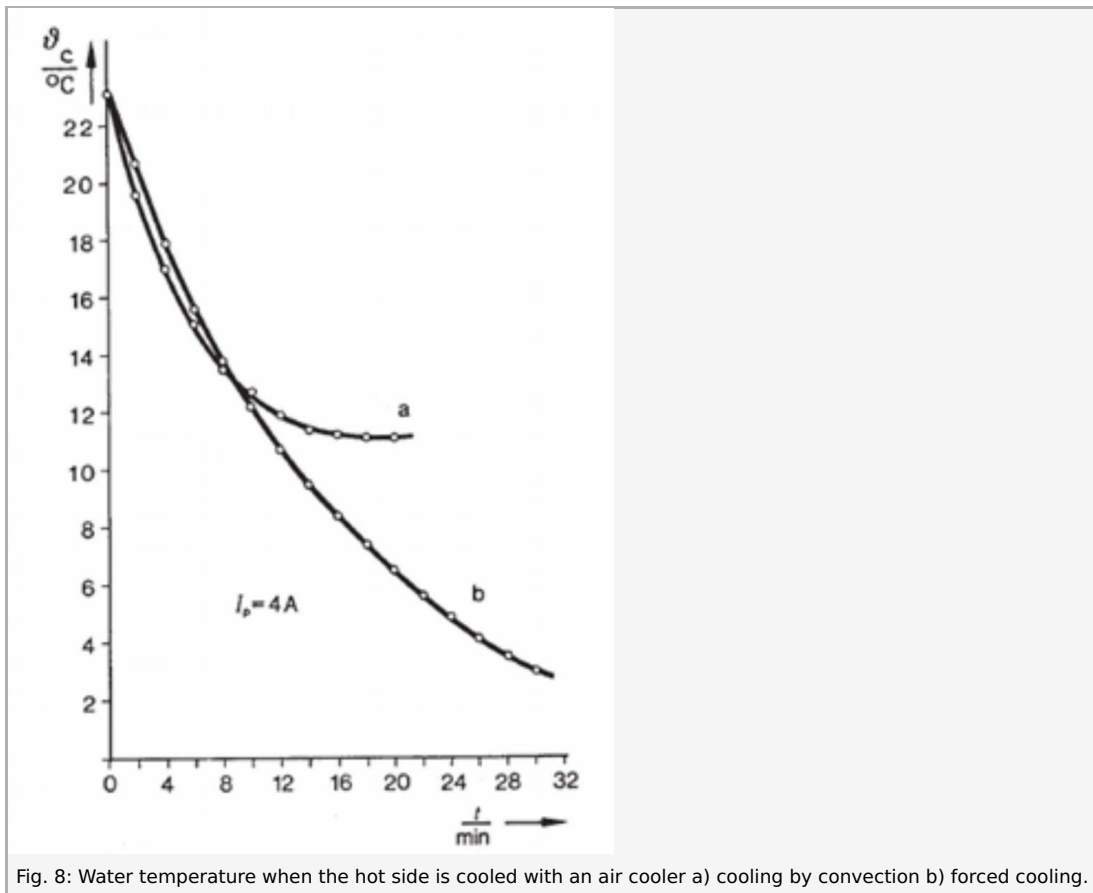

Fig. 8: Water temperature when the hot side is cooled with an air cooler a) cooling by convection b) forced cooling.
4. Fig. 8 shows the course of temperature in the water bath on the cold side when the hot side was cooled with the air cooler. The temperature ϑ_h of the hot side was approx. 72°C after 20 minutes (no blower). The maximum temperature difference $\vartheta_h - \vartheta_c = 60\text{ K}$ is thus attained and the pump output of the Peltier component is zero. When the blower was used, T_h remained constant at approx. 45°C after 20 minutes.